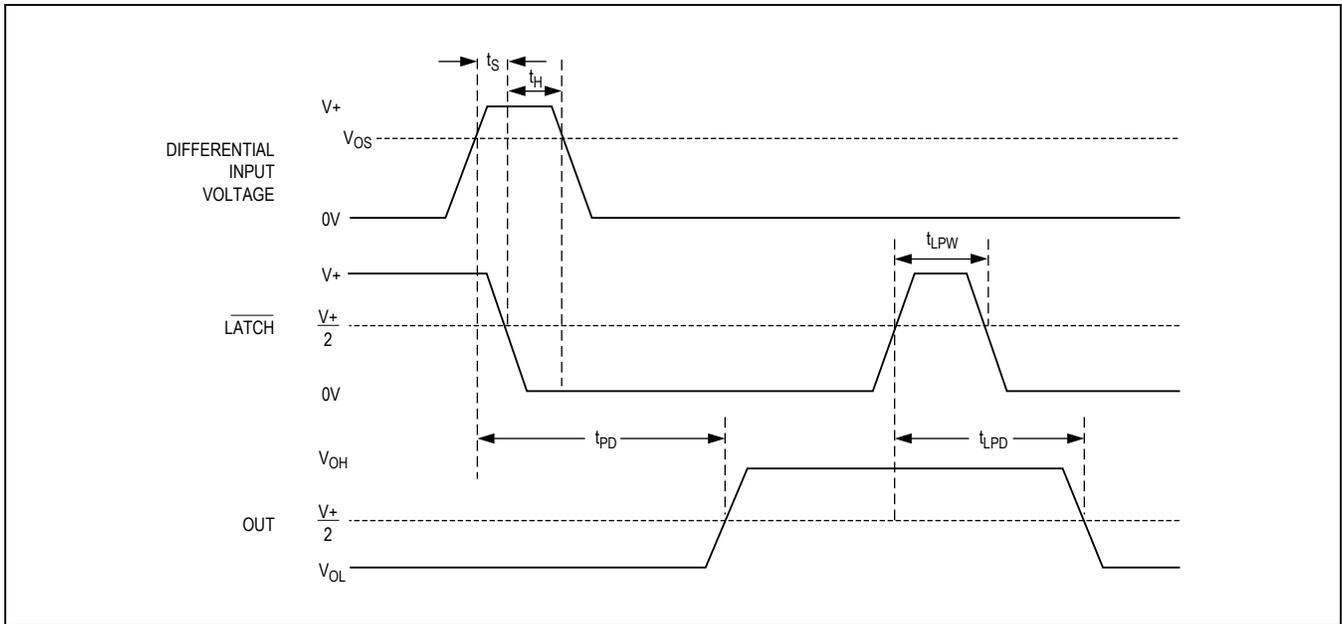

Figure 2. MAX941 Timing Diagram with Latch Operator
- Note 8:** Parameter is guaranteed by design and specified with V_{OD} = 5mV and C_{LOAD} = 15pF in parallel with 400μA of sink or source current. V_{OS} is added to the overdrive voltage for low values of overdrive (see Figure 2).
- Note 12:** Applies to the MAX941 only. Comparator is active with LATCH pin driven high and is latched with LATCH pin driven low (see Figure 2).
The MAX941 includes an internal latch that allows storage of comparison results. The LATCH pin has a high input impedance. If LATCH is high, the latch is transparent (i.e., the comparator operates as though the latch is not present). The comparator's output state is stored when LATCH is pulled low. All timing constraints must be met when using the latch function (Figure 2).